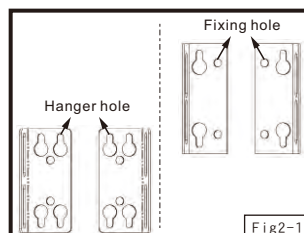

Fig 2-1
3. Select suitable position for installation, drilling hole on the wall by using  $\frac{1}{4}$ " thread bit and put screw lock in side the hole to fit wooden screw with matching hanging hole. Hang machine onto screws and the fixing holes must be screwed on the wall (Fig2-1).